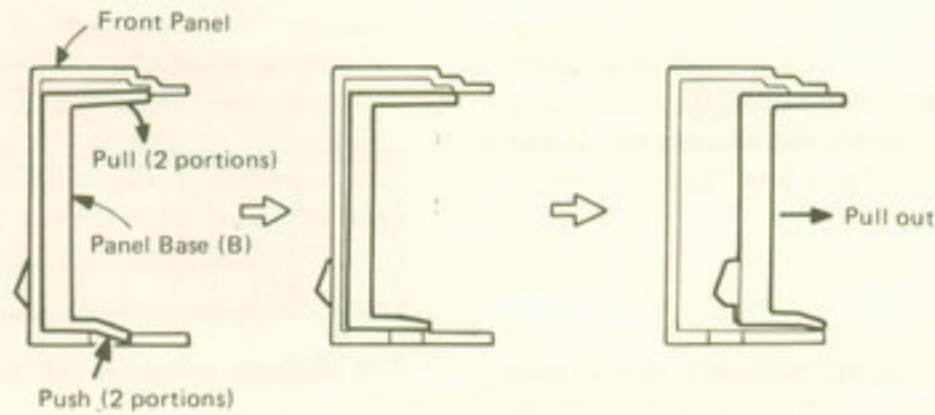

Fig. 4
• **Removal of Panel Base (B) ⑩**
- 1 Remove screw ③① securing the Panel Base (B).
- 2 Unfasten screw ③① mounting the prop and remove prop.
- 3 Detach the Panel Base (B) by following the steps as explained in the Figure. (Figure 4)